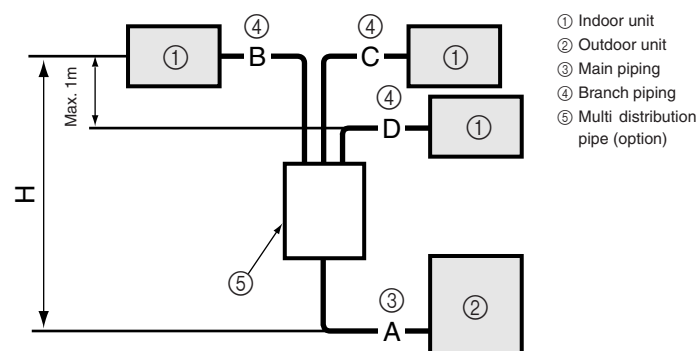

Fig. 5-7
5.6. Addition of refrigerant (Fig. 5-7)